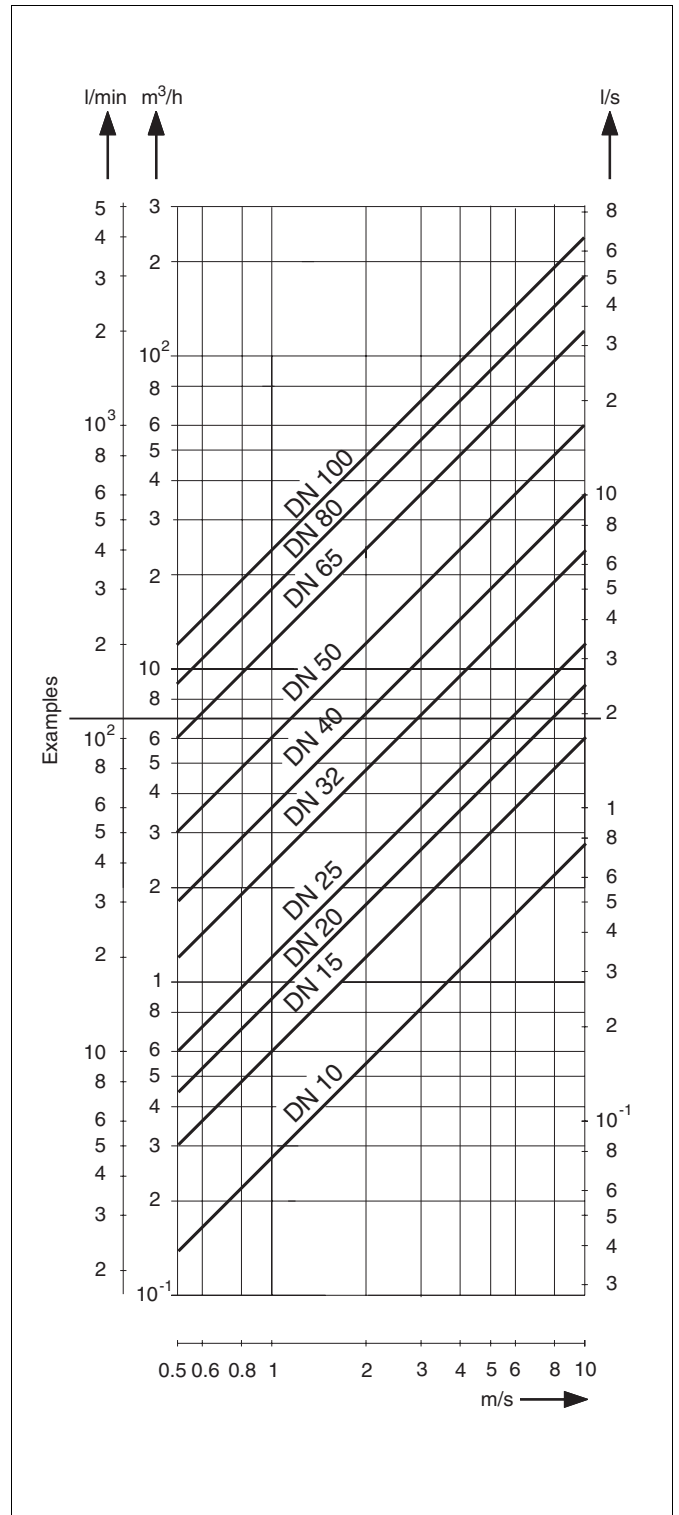

Fig. 4 Flowrate Nomograph DN 10 to DN 100
2. Determine the flow velocity from the Flowrate Nomograph Fig. 4